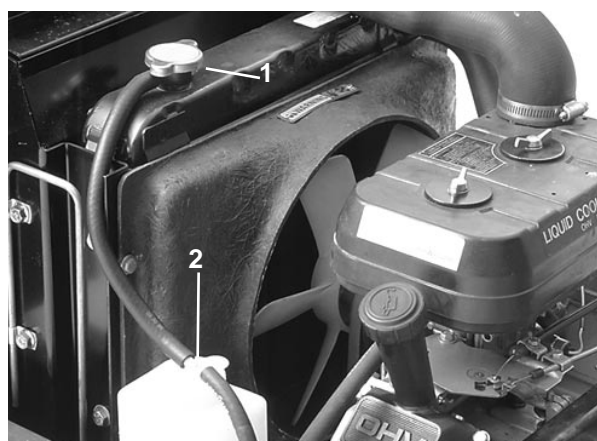

Figure 4
The cooling system is filled with a 50/50 solution of water and permanent ethylene glycol anti-freeze. Check the level of coolant at the beginning of each day (Fig. 4) before starting the engine. Capacity of the cooling system is 4 quarts (1).